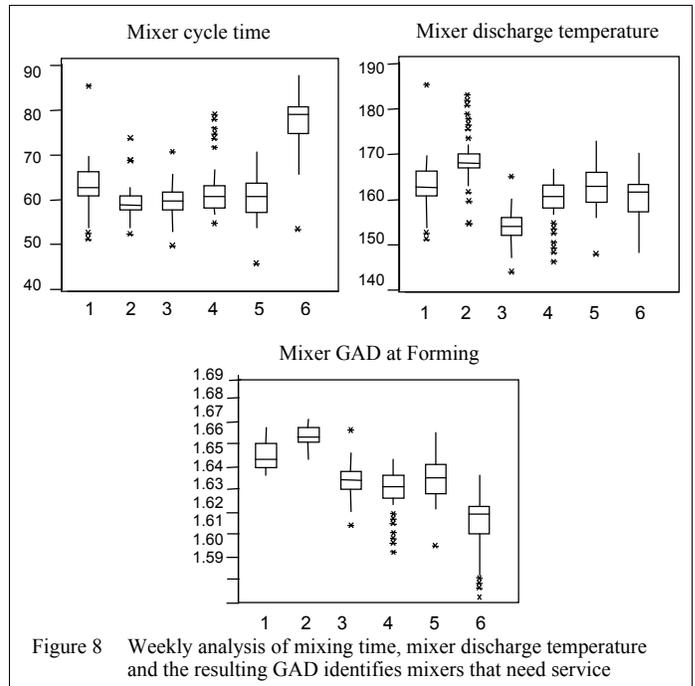

Figure 8 Weekly analysis of mixing time, mixer discharge temperature and the resulting GAD identifies mixers that need service
- Black loop – On a weekly basis, examine box and whisker plots for mixing time, mixing temperature and GAD to determine if the mixers are still operating in an acceptable range – let the performance of the mixer determine when it comes out of service for maintenance (Figure 8).